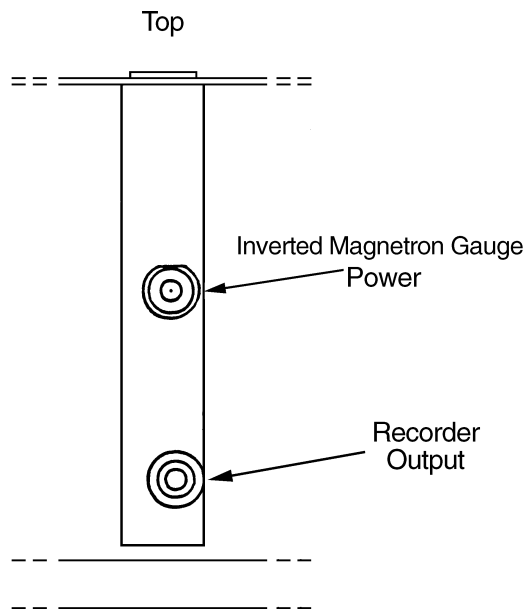

Figure J-1 Card Connections
Cable Length	<p>Standard cables with lengths of 10 and 20 feet are available from stock. Longer cables of up to 100 feet are available on special order. Connections are made at the rear of the card as shown in Figure J-1 on page J-4.</p> <p>NOTE</p>  <p>Measurements in the ultra-high vacuum range may be inaccurate or impossible due to increased leakage currents and other effects due to long cable lengths. Use rigidly mounted cable to avoid triboelectric and leakage effects.</p>
2. Use Figure J-1 to connect the board.